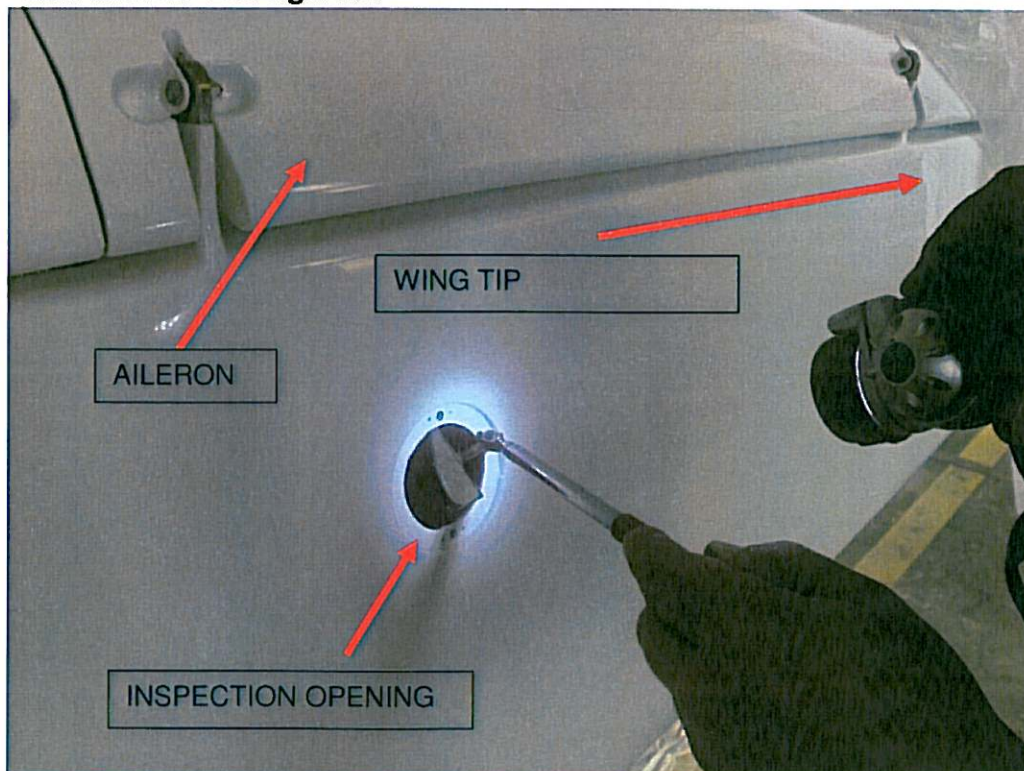

Figure 2. Location of console & installation verification - right wing.
- 3.4 Slide inspection mirror into inspection opening and lighten the wing interior with a torch - see Figure 2.